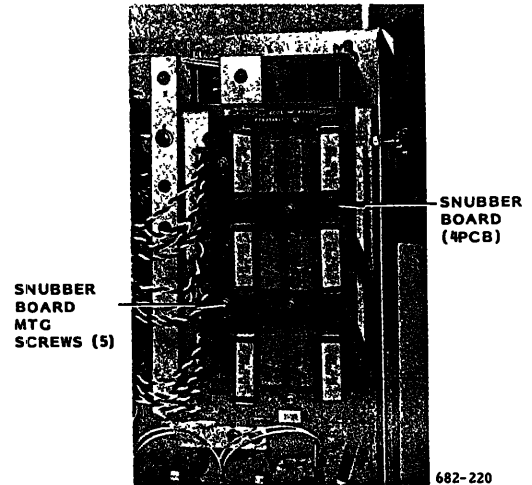

Fig. 15 Main Circuit Thyristor Assembly (460 V, 105 A)
1. Remove snubber board (4PCB) mounting screws (5) and remove snubber board. (Fig. 15)